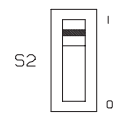

FIGURE 3
- 3.1 MAKE SURE THAT THE INPUT CONFIGURATION SWITCH S2, LOCATED ON THE REAR OF THE UNIT, (FIGURE 3), IS SET TO THE '1' POSITION FOR WYE (4-WIRE) INPUT, AND TO THE '0' POSITION FOR DELTA (3-WIRE) INPUT.